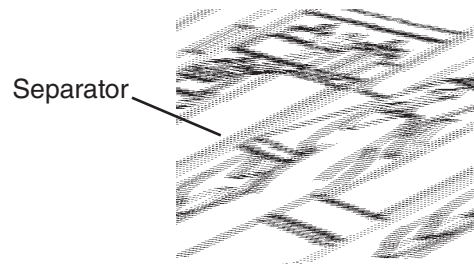

Fig. 37
- 3) Remove each separator by lifting it to the horizontal position and pushing it hard inward. See Fig. 37.